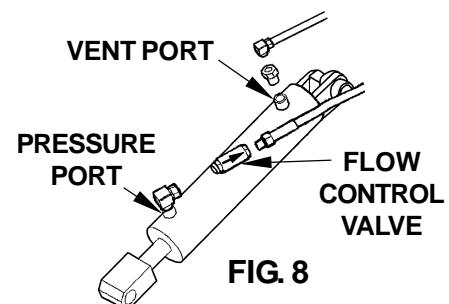

FIG. 8
2. Check the Hydraulic Cylinder. With the Platform on the ground, remove the Breather Plug or Vent Line from the Vent Port of the Cylinder (FIG. 8). Raise the Platform even with the bed. Allow pump motor to run two seconds more while you watch for hydraulic fluid at the Vent Port. A few drops of hydraulic fluid escaping the Vent Port is normal; however, if it streams from the Vent Port, Piston Seals are worn. Replace Seals.
3. Check and clean Flow Control Valve in high pressure hydraulic line attached to Cylinder. When installing Flow Control Valve make sure arrow on valve is oriented as shown in (FIG. 8).